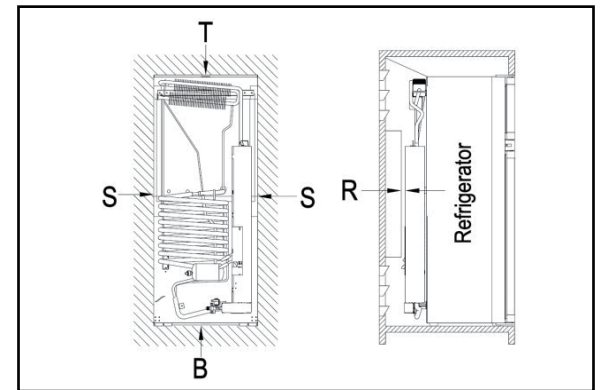

FIG 2
- A wood strip must be in place across the upper opening of the enclosure. The top frame of the refrigerator will be anchored to the wood strip with screws, see FIG 2.
CLEARANCES (FIG 2)